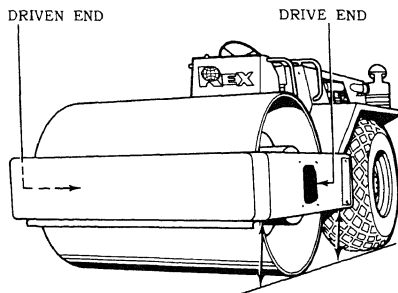
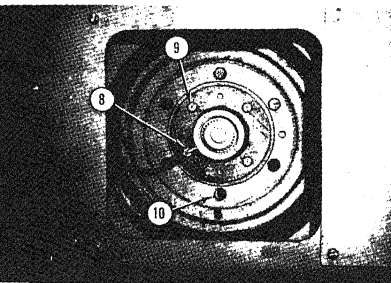

FIGURE 21
FIGURE 24
(Figures 21 thru 27)**
1. Figure 21. Remove the roller frame side covers at the drive and driven ends.
2. Figure 21. Place hydraulic jacks or blocking under the front and rear ends of the roller side frame being repaired, where indicated with arrows. Apply just enough upward pressure to keep the frame from lowering.
Driven End – Figure 24 and reference figure 21.
3. Figure 24. Back off on lock nut holding magnetic pick-up (8) into the bearing housing. Unthread magnetic pick-up out of bearing housing and tuck into roller frame. If machine is not equipped with an amplitude indicator, proceed with step 15.
15. Figure 24. Remove four bolts (9) holding bearing